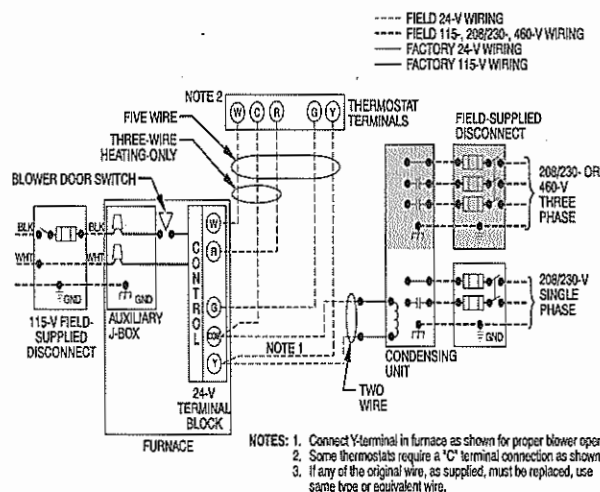

Fig. 24 – Heating and Cooling Application Wiring Diagram with 1-Stage Thermostat
See Fig. 24 for field wiring diagram showing typical field 115-V wiring. Check all factory and field electrical connections for tightness.
13. Complete electrical box wiring and installation. Connect line voltage leads (see Fig. 24). Use best practices (NEC in U.S. for wire bushings, strain relief, etc.)
5. Connect line voltage leads (see Fig. 24).